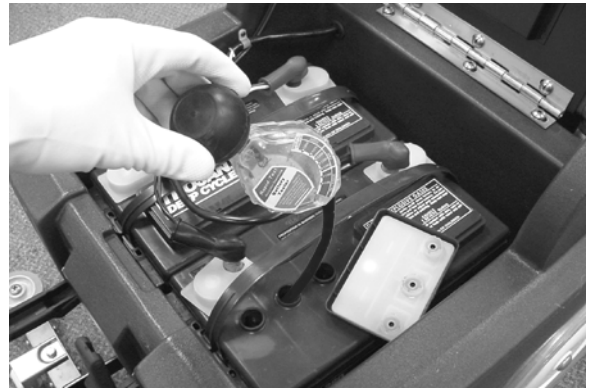

FIG. 23
1. Check the specific gravity using a hydrometer to determine the charge level and the condition of the batteries (Figure 23). If one or more of the battery cells read lower than the other battery cells (0.050 or more), the cell is damaged, shorted, or is about to fail. Check the hydrometer readings against the following chart to determine the remaining battery charge level.